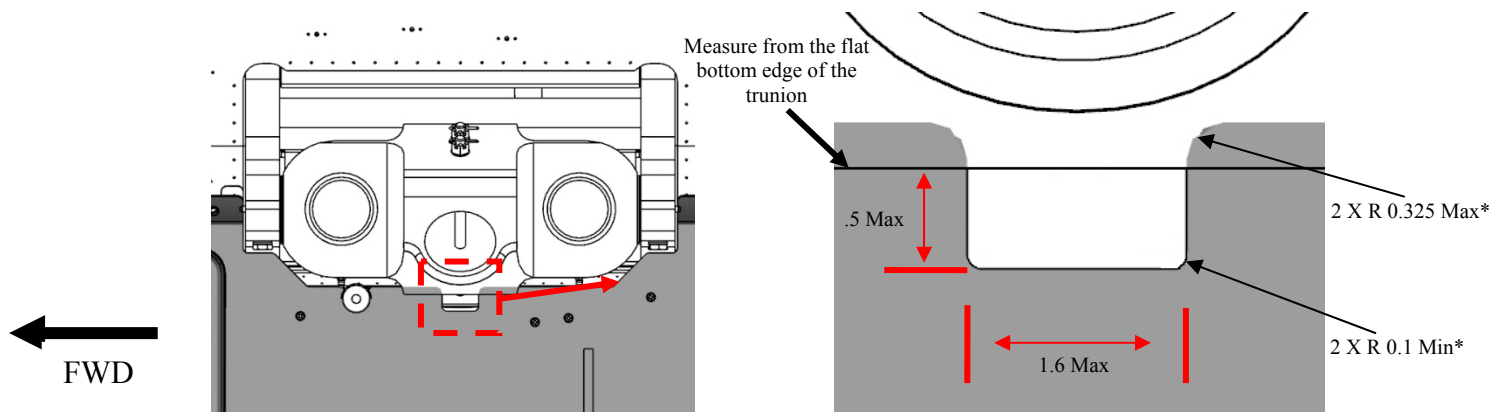

Figure 5-1: Optional External Cargo Compartment Modification
1. In order to remove the jack points, the material around the external cargo compartment may be removed up to the limits shown in Figure 5-1.